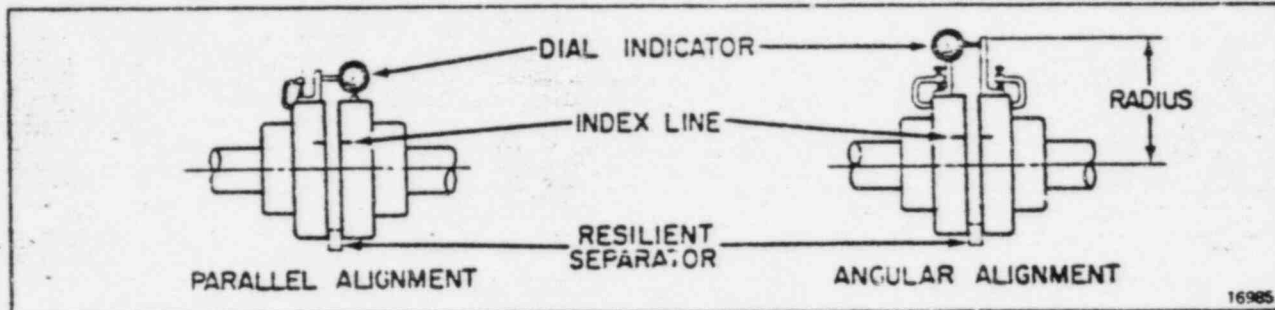

Figure 3. Test Alignment, Dial Indicator
- b. Test for parallel and angular alignment one plane at a time (horizontal and vertical) with a dial indicator as shown in Figure 3.
Flexible Coupling. Separate the coupling and mount a dial indicator as shown in Figure 3. (Check alignment as previously discussed.)